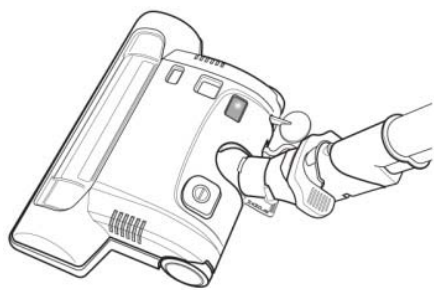

Fig. 5.6
- c. Carpet Height Adjustor – The power nozzle has a carpet height adjustor to raise or lower the nozzle head based on the type of carpet being vacuumed. Press the round foot pedal to adjust the carpet height from the lowest setting, 1 to the highest setting, 6. It is recommended the longer the carpet pile, the higher the setting. The carpet setting can be seen in the small window on the top of the power nozzle, Fig. 5.6.